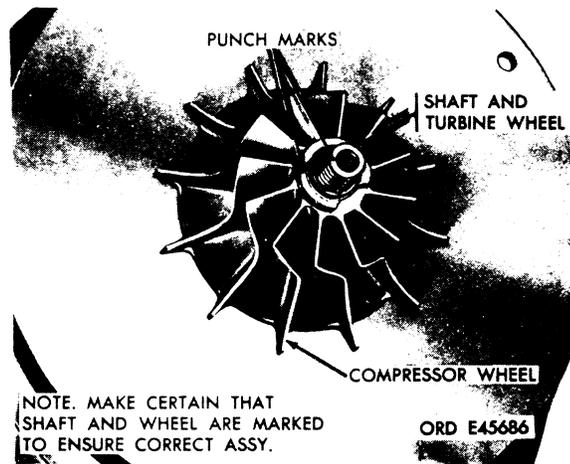

FIGURE 22. CHECKING ALINEMENT MARKS ON SHAFT AND TURBINE WHEEL AND COMPRESSOR WHEEL - TURBOCHARGER 7748900.
a. Turbocharger 7748900, refer to figure 22. Check alinement marks on shaft and turbine wheel and compressor wheel. If the marks are